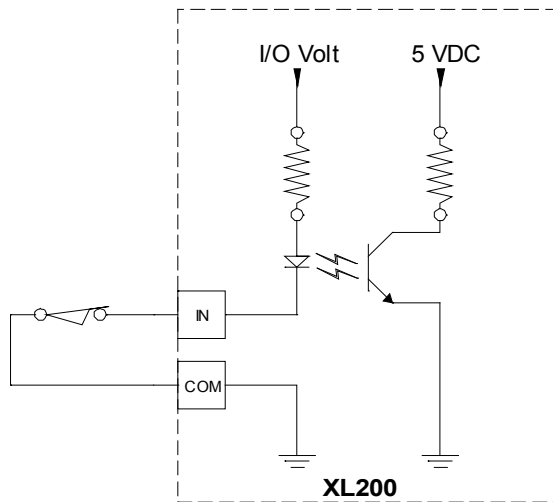

Figure I-6 Typical Input Circuit
There are twenty-four (24) discrete inputs into the **XL200CL SERIES** controller. Each is optically isolated. They sense continuity between the input of the controller and the common connection. A typical diagram of an input circuit is shown in Figure I-6. This circuit uses a 5 VDC and a 24 VDC biasing circuit internal to the AMS controller.